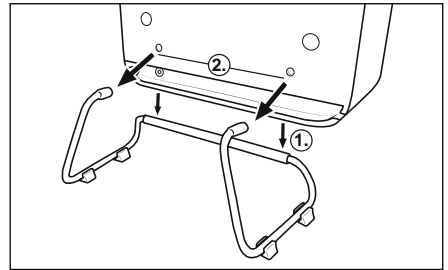

Fig. 2
- ◆ Place the appliance on the stand **❶** and so that the ends of the stand **❶** are inserted into the holes in the appliance (see Fig. 2).